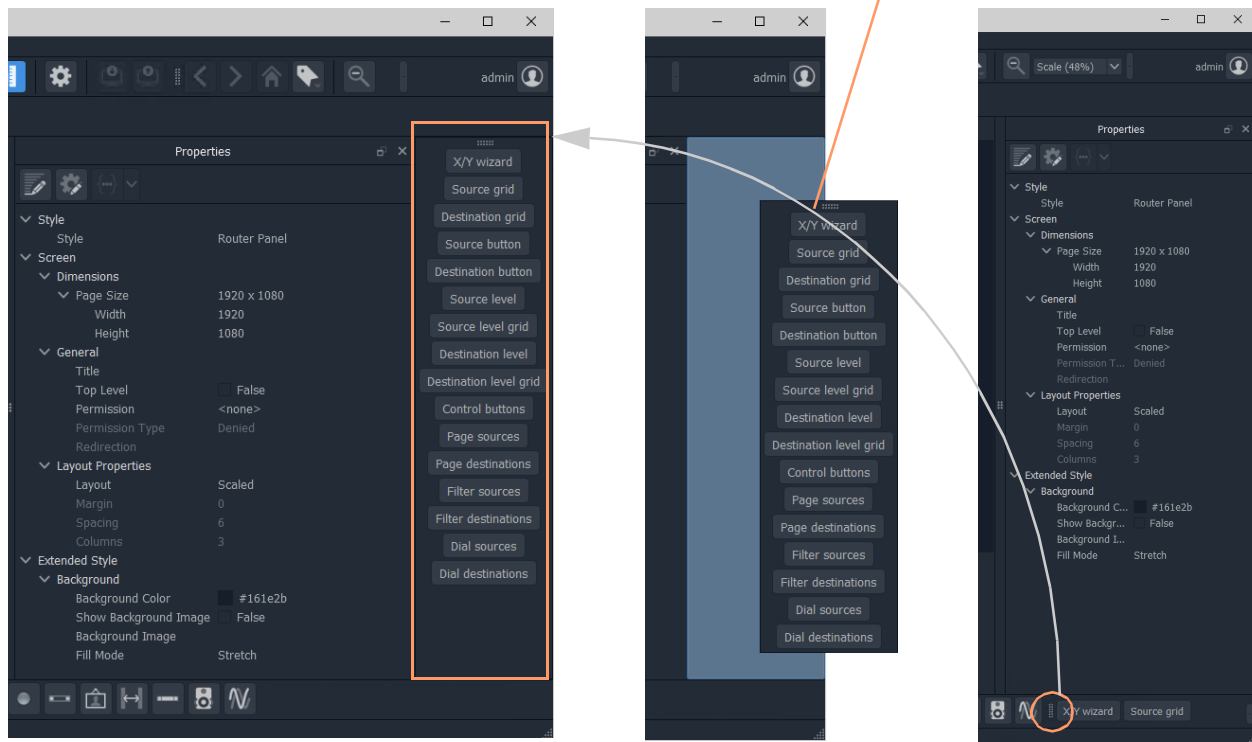

Fig. 12-40: Re-positioning the Routing Control Widgets Tool Bar
- 6 Drag the routing control widgets tool bar by its handle to a convenient position. See Figure 12-40.